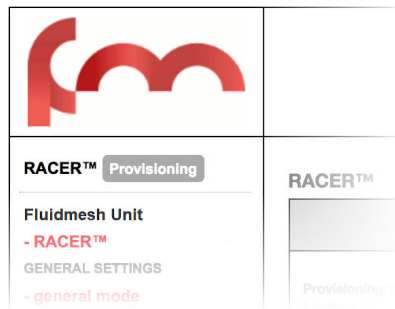

Figure 17. FM Racer status icon (Provisioning Mode)
- Check that the unit is in Provisioning Mode by looking at the colored icon to the right of the **RACER™** tag in the upper left-hand corner of the screen (Figure 17 \(page 43\)).